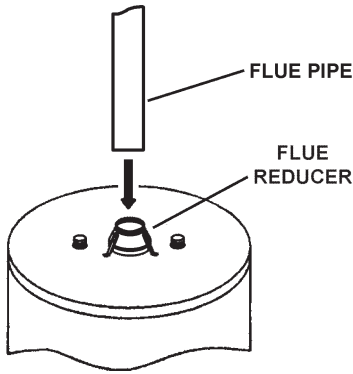

FIGURE 16.
- Extend the flue pipe downward until it is close to the flue reducer. See Figure 16.